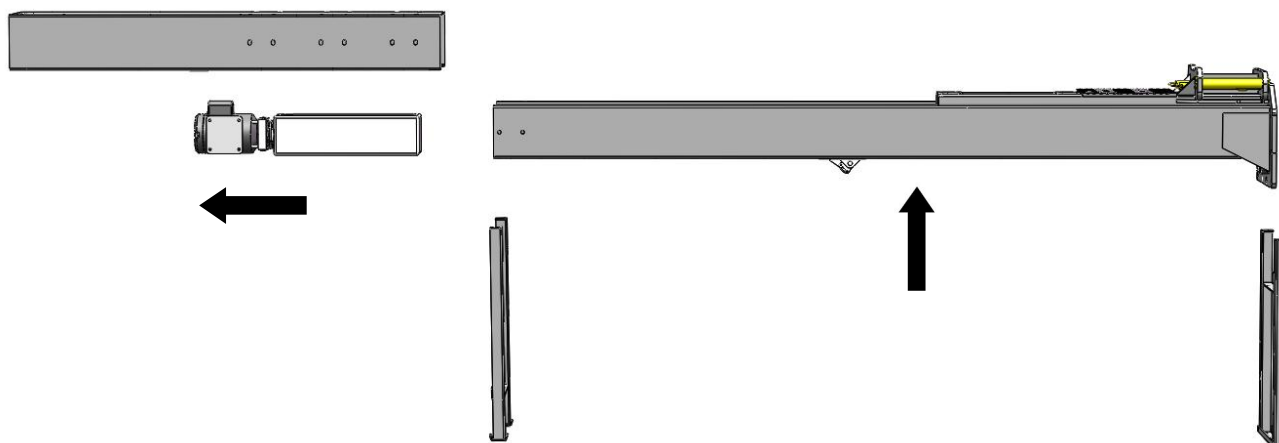

Fig. 14
5. Lift the lower column with a fork lift or hoist, take off the package bracket, then take out the parts inside the column. (See Fig. 14)